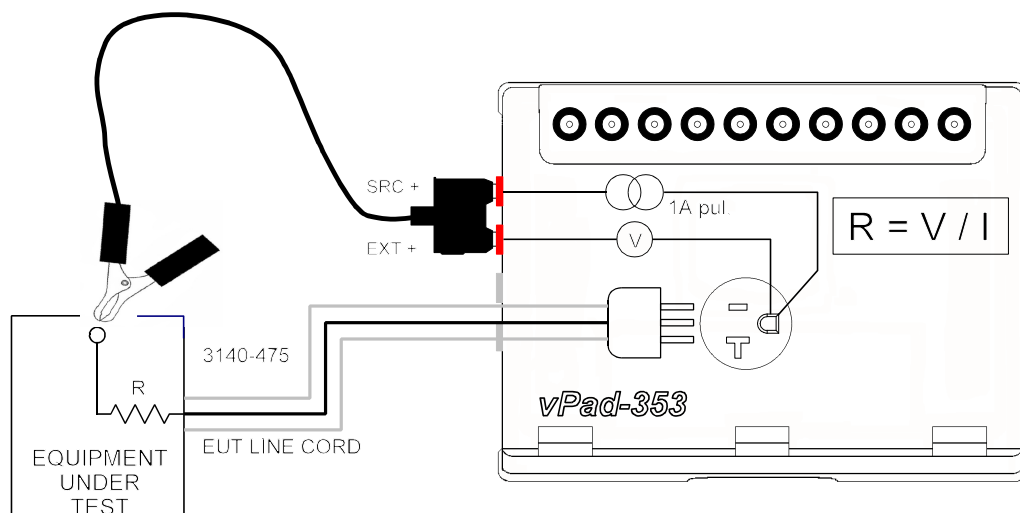
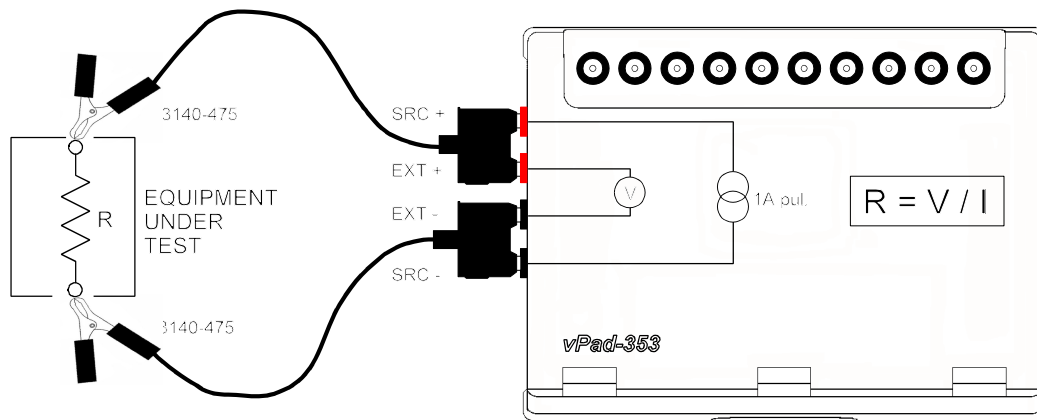

Figure 34: Protective earth resistance test
Figure 36: External (point-to-point) resistance test
Connect the EUT line cord to the test receptacle. Plug the vPad Kelvin Cable into **SRC+** and **EXT+** jacks on the left panel of the Analyzer Base Unit, then connect the Kelvin Cable to a protectively earthed terminal or conductive point on the EUT chassis (*Figure 34*).
This test requires two vPad Kelvin Cables, connected as shown in **Figure 36**. Resistance up to 2 Ω may be measured. As with the line cord test, high resistance or open-circuit conditions are represented by **X.XX** on the display; inspect the attachment of the Kelvin Cables in this case.
Referring to **Figure 34** and **Figure 36**, vPad-353 uses a "four-wire method" when measuring line cord or point-to-point resistance. Not apparent from the schematics are two separate insulated conductors in the Kelvin Cable, one conductor conveying a current (I) to the resistance under test (R), and the other conductor conveying voltage (V), caused by the current (I), to a voltmeter. For a known or measured current (I) and a measured voltage (V), resistance can then be calculated as $R = V / I$. The four-wire method is preferred for measurement of small resistance values, since error caused by internal resistance of the test leads is eliminated.